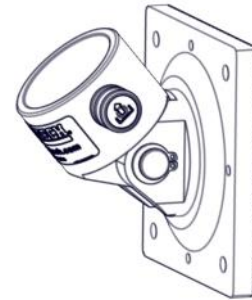

Figure 1-12. Hinged Strut Base 6
i. **Hinged Strut Base 6.** The Hinged Strut Base 6 (Figure 1-12) is a 6" (15.2cm) square plate with a grooved non slip surface and a cup that can hinge 45° about the pivot pin axis off a 90 degree vertical plane.